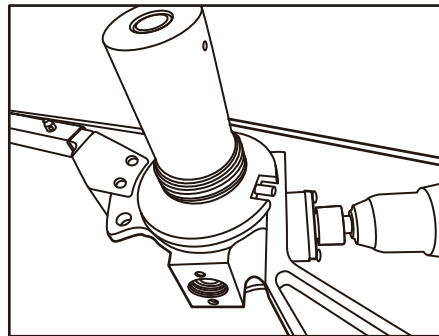

Fig 9
A. When pulling underground or from below, wrap rope over the top of Capstan (1) in a clockwise direction multiple times (Fig 9) and switch the 18-Volt drill into REVERSE and payoff like most conventional wire pullers.